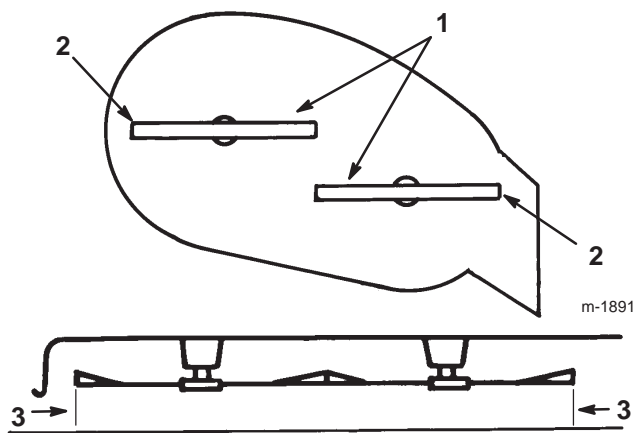

Figure 48
8. Carefully rotate the blades side to side (Fig. 48). Measure between the outside cutting edges and the flat surface (Fig. 48). If both measurements are not within 3/16 in. (5 mm), an adjustment is required; refer to steps 9 and 10.